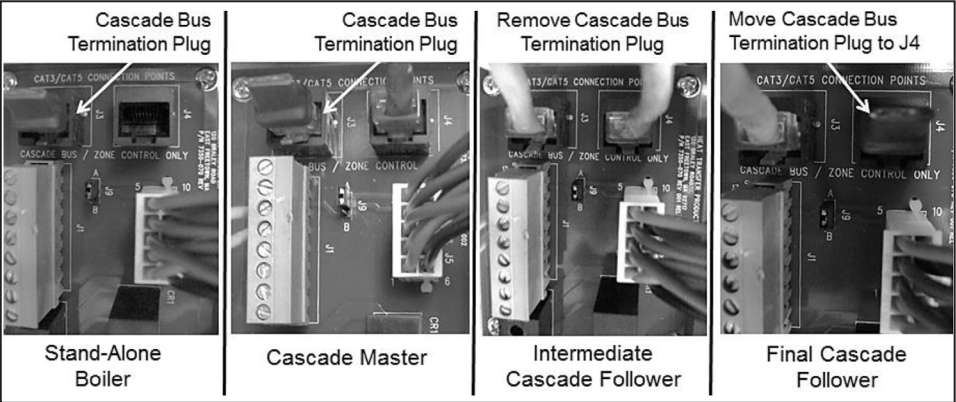

Figure 31 - Cascade Termination Plug Detail
3. Move jumper on connection board (shown in Figure 31) from A to B.